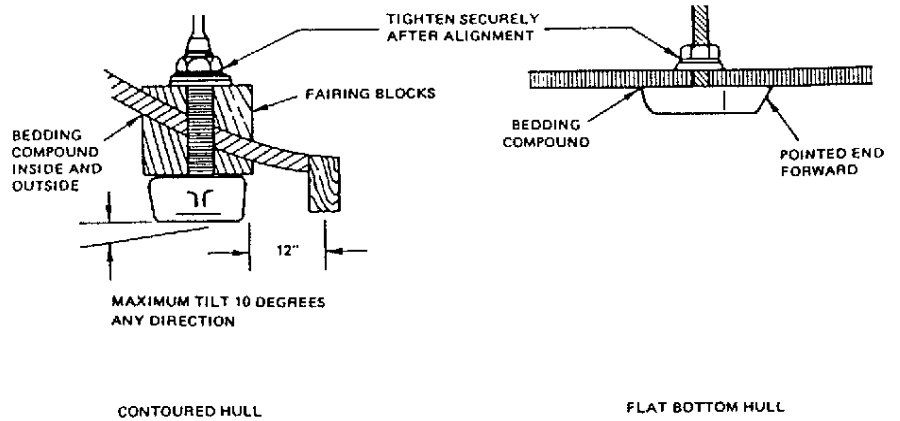

Figure 2-5. Thru-Hull Mounting
2-6 Thru-Hull Transducer Mounting (See Figure 2-5)
3. Mount the transducer as illustrated in Figure 2-5, with the pointed end forward and with the working face aligned parallel to the waterline.